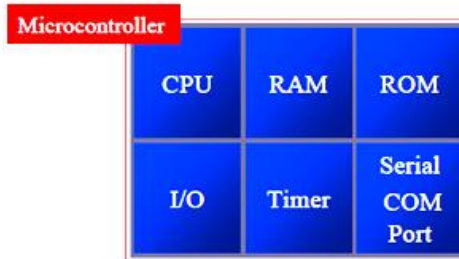

Fig.2.Block Diagram of a Microcontroller
- ✓ The block diagram of Microcontroller is shown in Fig.2.